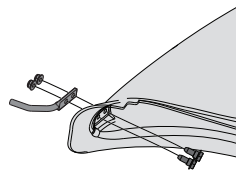

Figure 17
- From the inside of the boot, put the two hex head screws (738-1225), from hardware pack 689-00636, through the holes at the bottom front of the boot. See Figure 17.
- Put the mounting rod (747-06043) in place over the hex head screws. Make sure the tip of the rod is facing out from the boot. See Figure 17.
- Begin threading the two flange lock nuts (712-04064) onto the hex head screws. See Figure 17.